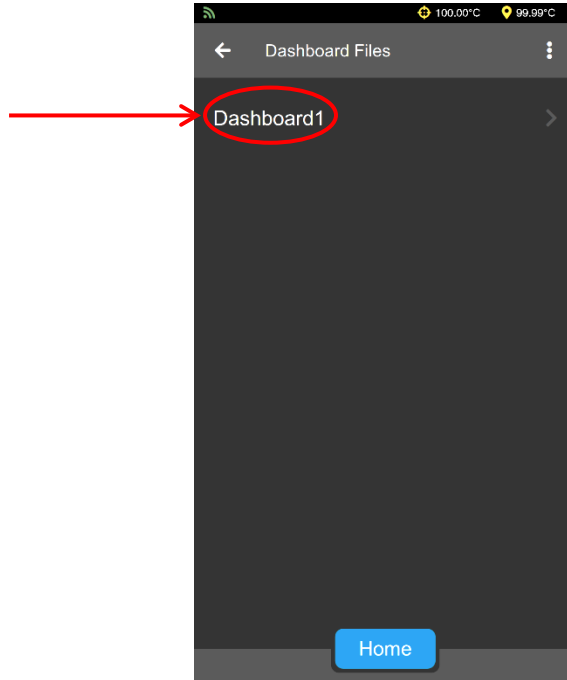

Figure 55: Accessing Dashboard Details Screen
3. From the **Dashboard Files** screen, use a single touch on the desired Dashboard to access the **Dashboard Details** screen. See Figure 55.
3. From the Dashboard Files Screen, tap to select the desired Dashboard to access the Dashboard Details screen. See Figure 55.